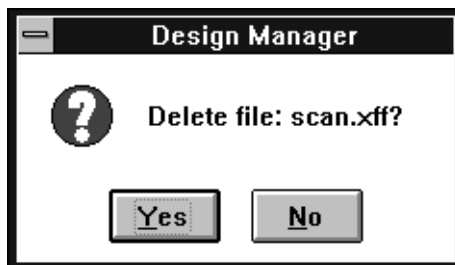

Figure 2-24 The Delete Confirmation Window
- Delete: If you want to delete a file, select the file name in the Revision Browser window and click Delete; you will see the delete confirmation window shown in Figure 2-24.